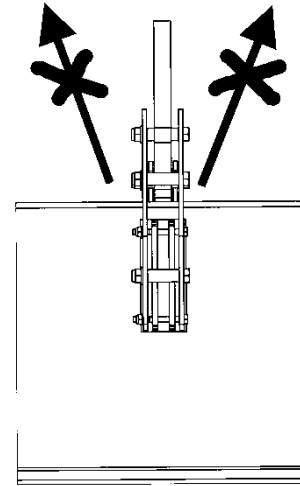

Fig. 4
**Do not load the jaws by pulling to one side and do not drag jaws along the ground (Fig. 4). Distortion and danger of releasing the load!**